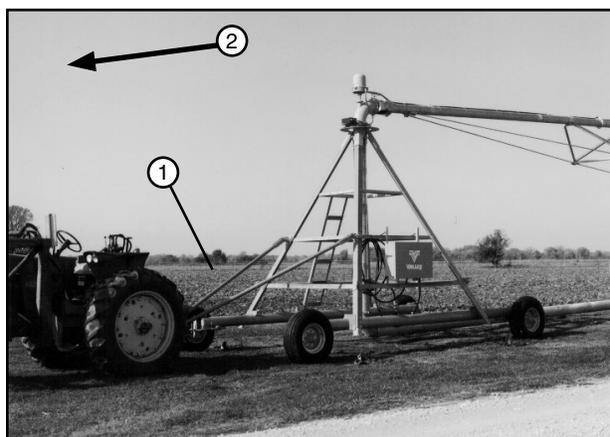

Figure 44-3 1. Tongue
11. If necessary, move the tongue to the side of pivot that faces the towing direction. See figure 44-3.